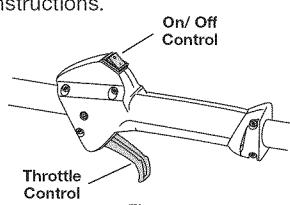

Fig. 8
NOTE: There is no need to turn the unit on. The On/Off Control is in the ON (I) position at all times (Fig. 8).
2. Press and hold the On/Off Control switch in the OFF (O) position until the unit comes to a complete stop (Fig. 8).
- NOTE:** There is no need to turn the unit on. The On/Off Control is in the ON (I) position at all times (Fig. 8).
5. Crouch in the starting position (Fig. 8). Do not squeeze the throttle. Place the Plug-In Power Start or Power Bit Start into the back of the unit. Refer to the Operation section of the Plug-In Power Start or Power Bit Start operator's manual.
6. Press and hold the ON (I) button of the Plug-in Power Start or Power Bit Start equipped drill in intervals no longer than 4 seconds each until the unit starts.
7. Wait and allow the unit to idle for 5 - 10 seconds. If the unit stops running during this time, squeeze the throttle control, then press and hold the ON (I) button of the Plug-in Power Start or Power Bit Start equipped drill in intervals no longer than 4 seconds each until the unit starts.